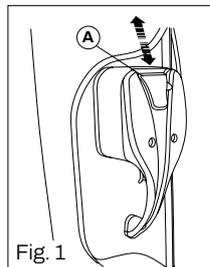

Fig. 1
in the registration certificate and marked with the appropriate label (see Fig. 1)
(Fig. 1 and 2)
- Your motorhome is fitted with fixed air vents which should not be obstructed. These vents are located in some skylights on the roof and on the inside of the entrance step (Fig. 1 and 2)